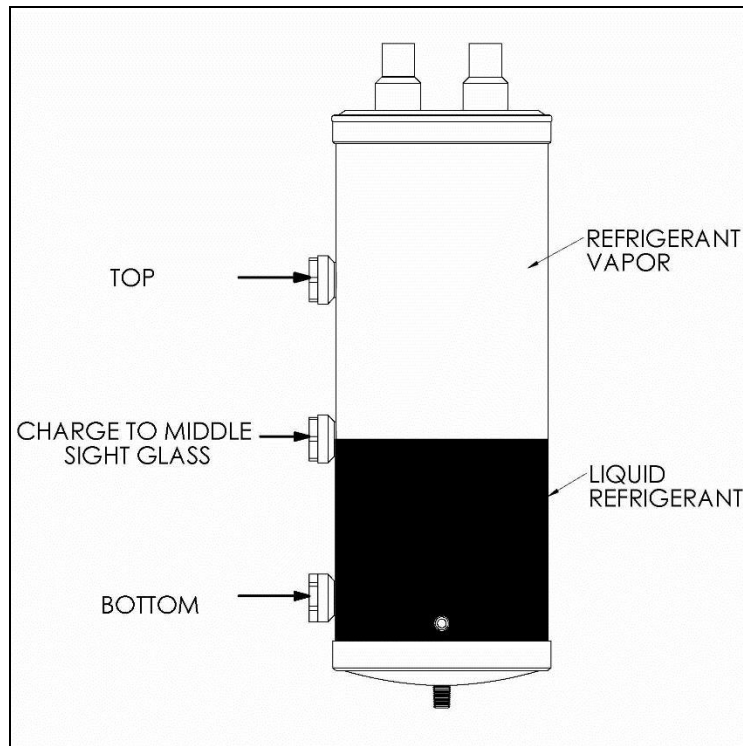

Figure 29. Charging to the Middle Sight Glass
5. Slowly add refrigerant until liquid refrigerant is clearly seen in the middle sight glass of the ACC, as shown in Figure 29.